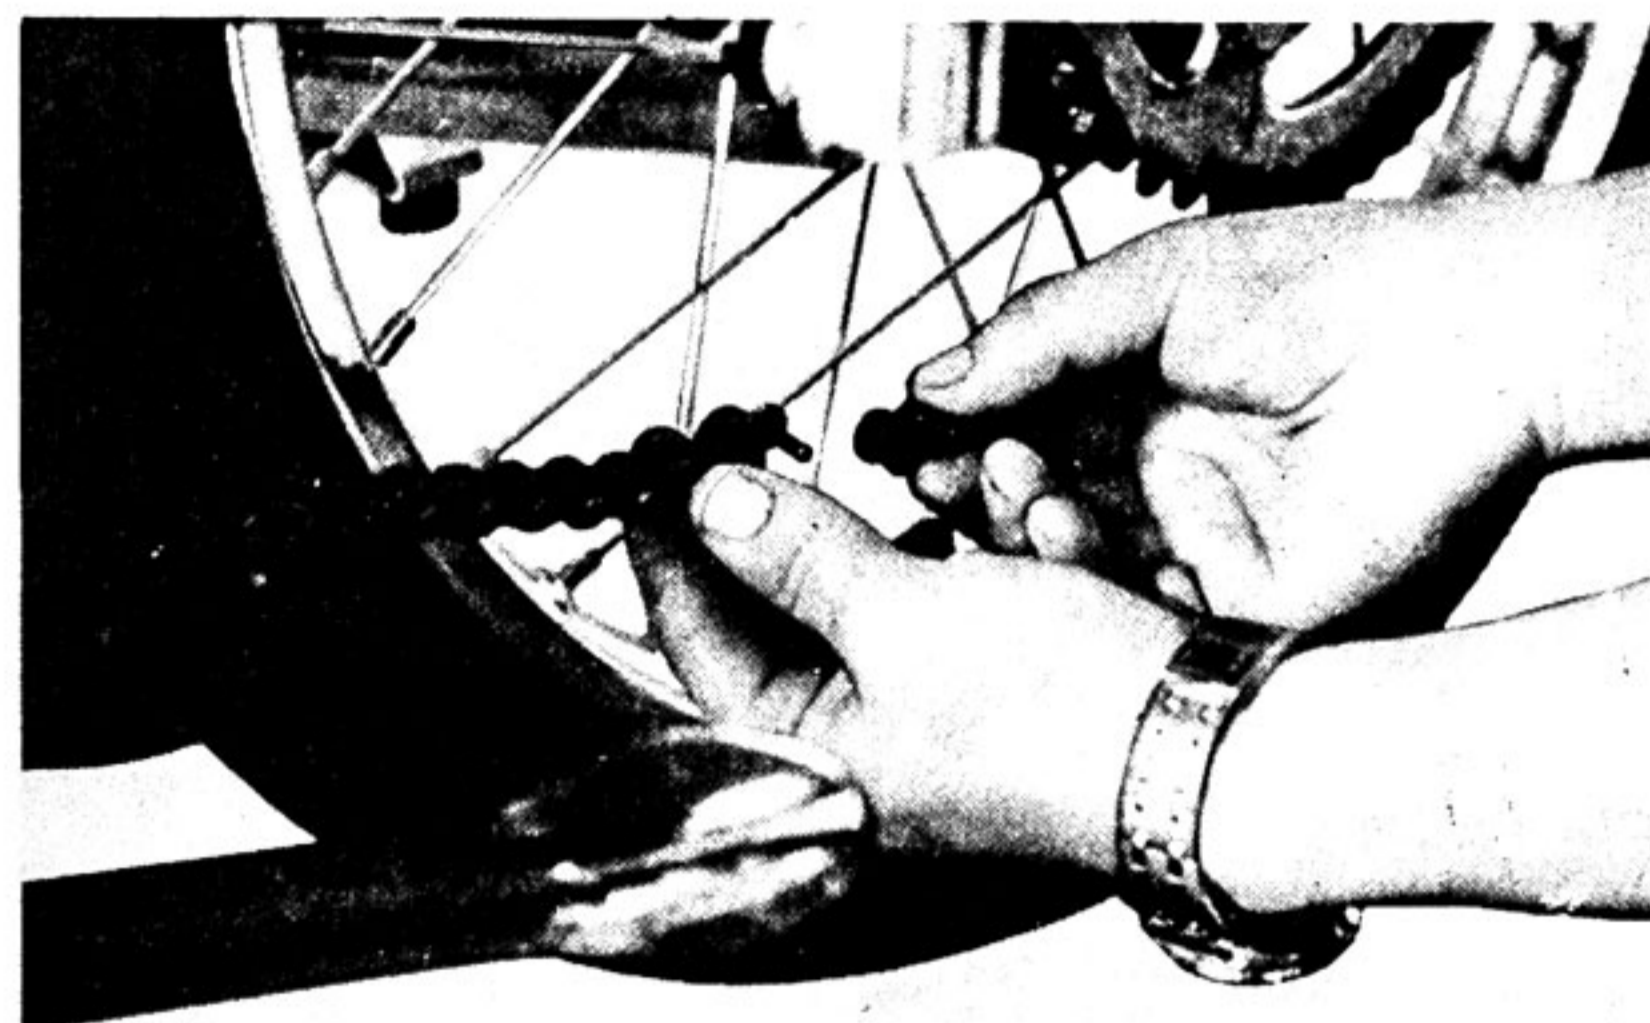

Fig. 5-4-1
- (1) Disconnect the chain joint and remove the chain. (Fig. 5-4-1)